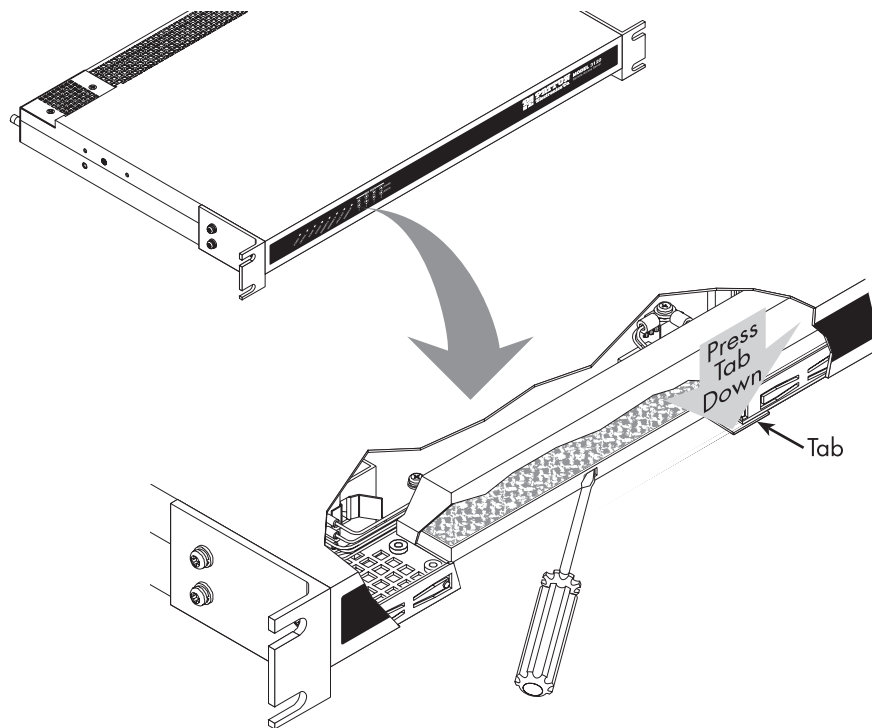

Figure 37. Removing the air filter
1. Press down on the tab that holds filter in place (see figure 37).
2. Insert the screwdriver tip into one of the slots in the filter frame (see figure 37) and gently pull the filter forward from the chassis.